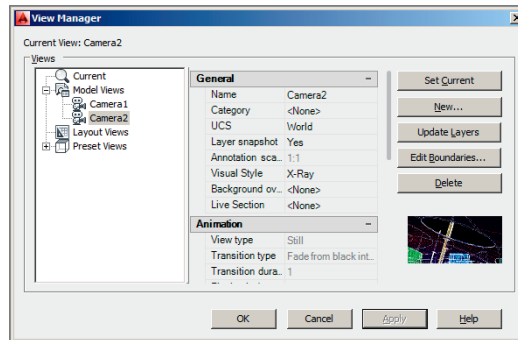

FIGURE 16.24 Restoring a view
5. Type **V** (for view), and press Enter. Select Camera2 in the list of Model Views in the View Manager dialog box (see Figure 16.24). Click Set Current, Apply, and then OK.